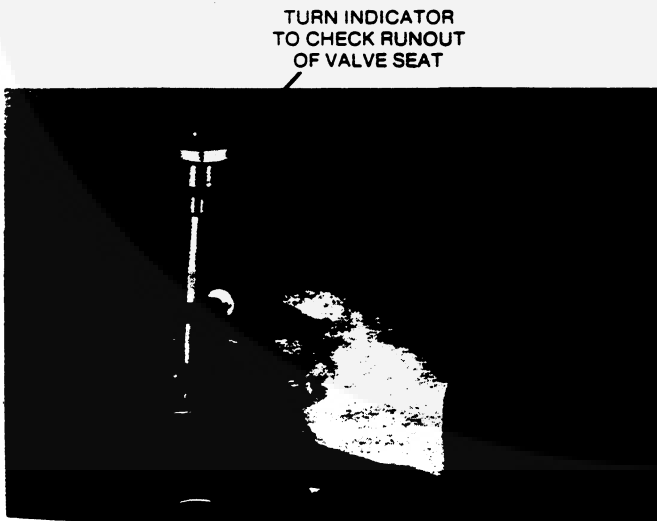

FIGURE 15. CHECKING RUNOUT OF VALVE SEAT
5. Use a dial indicator (Figure 15) to measure valve seat runout. Set dial indicator at zero and rotate indicator to check runout of valve seat. If runout exceeds 0.050 mm (0.0019 inch), grind seat until the runout is less than 0.050 mm (0.0019 inch).
5. Use a dial indicator (Figure 15) to measure valve seat runout. Set dial indicator at zero and rotate indicator to check runout of valve seat if runout exceeds 0.050 mm (0.0019 inch), grind seat until runout is less than 0.050 mm (0.0019 inch).